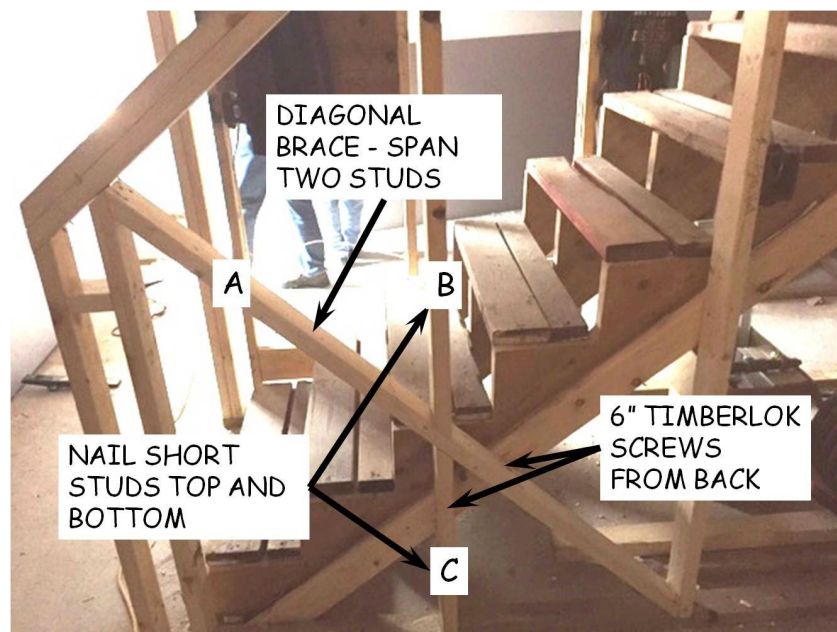

Figure 6-11. Stairway Wall Bracing.
7. To stiffen the wall, cut and nail an angled 2x4 brace between the bottom of the uncut stud and the top of the next cut stud, through the space where the stud was removed earlier (see "A" in Figure 6-11).
12. Finally, drive a timber screw through the stringer/OSB/2x4 sandwich into the diagonal brace, and another into the lower Short Stud (“C”) as indicated in Figure 6-11.